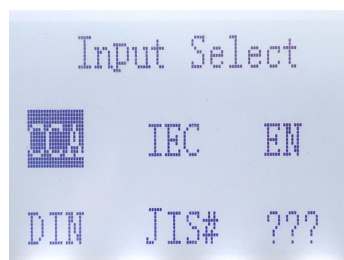

Figure 9
(2) Press OK key to enter and select battery form. Figure 9: